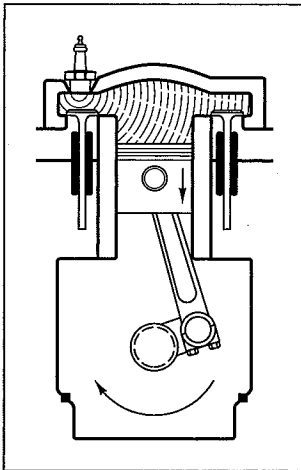

Figure 6-16:
- 3. Power stroke:** (See Figure 6-16.) The spark plug produces a spark across the gap between its electrodes. This spark ignites the compressed fuel/air mixture. Then the burning fuel/air mixture explodes, creating intense pressure that forces the piston *down* again. The power that pushed the piston down is transmitted, via the connecting rod, to the crankshaft. It then travels, via the drive train, through the clutch, the transmission, the driveshaft, the differential, and so on, to the wheels. (A quick overview of this process appears in Chapter 4.)